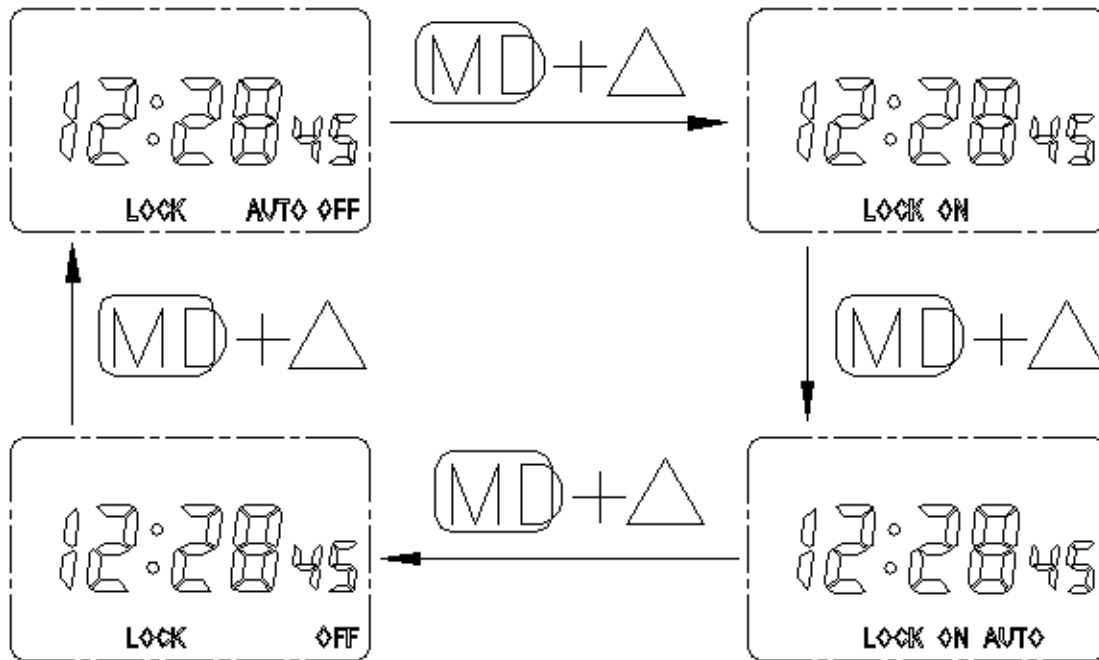

Figure9 Manual/automatic setting process
4.2.2 After locking the switch, press 'MD' and '+' at the same time to switch manual/automatic status. Continuously press them together, the screen will show 'AUTO OFF', 'ON', 'ON AUTO' and 'OFF' successively, see Figure 9. When the circuit shall be on and off temporarily in the process of operation, the combination buttons can be used to adjust the switch to ON